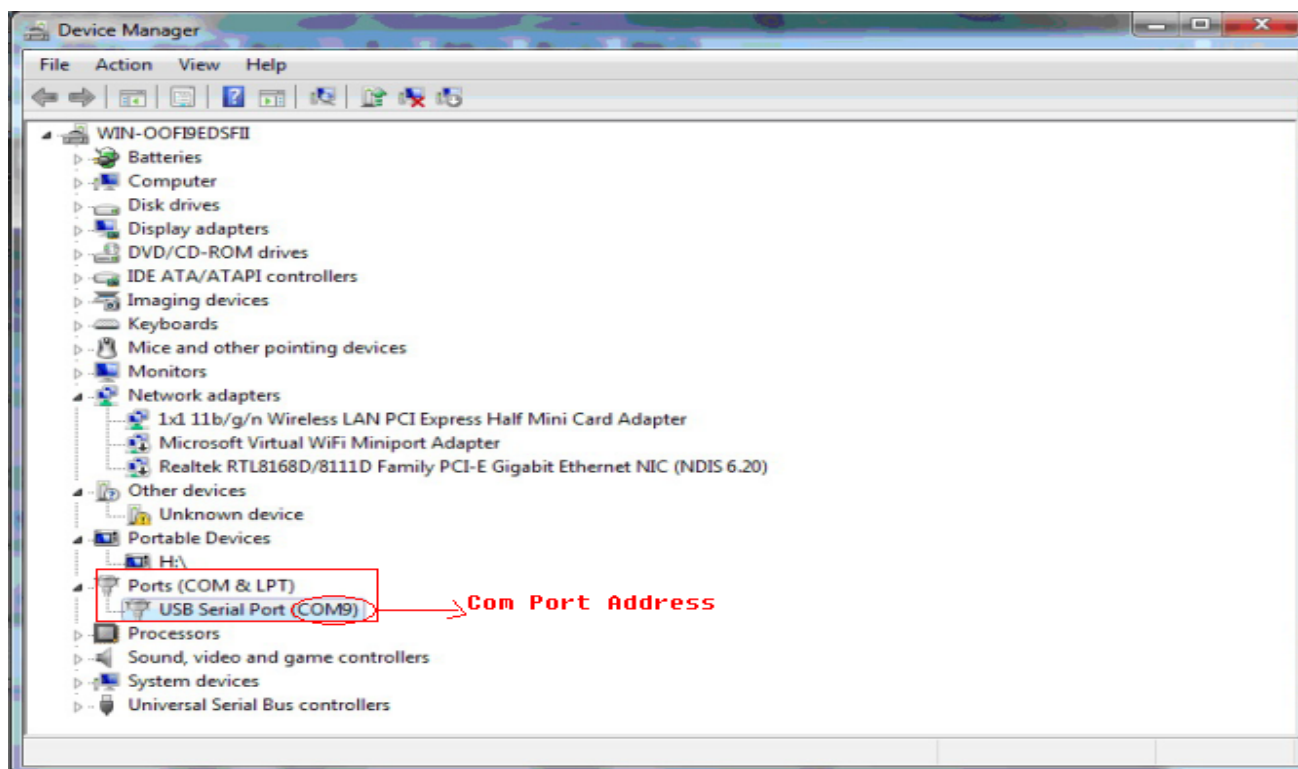

Figure 4 Query com port address
- (1) Open the device manager of computer.
- (2) Find out the com port address as Figure 4. If the automatic assigned com port No. is beyond 10, you should change it to below 10 manually.